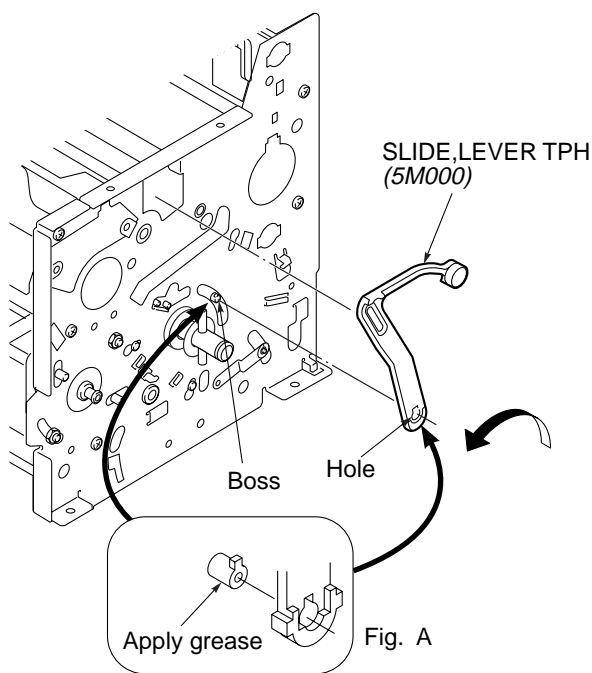

Fig. 3-12-1
(See Fig. 3-12-1)
- 2) Rotate the "SLIDE,LEVER TPH (5M000)" clockwise until the shape of the boss on it aligns with the shape of the hole as shown in Fig. A of Fig. 3-12-1.
2. Insert the boss all over into hole and rotate the "SLIDE,LEVER TPH (5M000)" in the direction of the arrow while pressing its base as shown in Fig. A of Fig. 3-12-1.